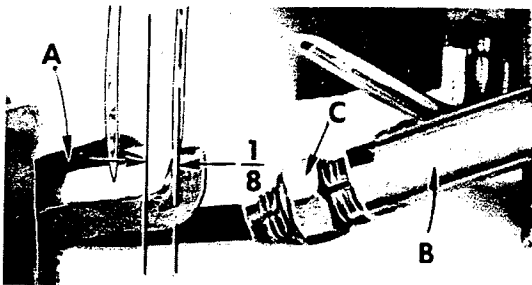

Fig. 4
Insert the lower spreader (A, Fig. 4) into bar (B). With lower spreader at left end of its stroke, set spreader point $\frac{1}{8}$ inch from center-line of right needle (Fig. 4) using gauge No. 21225- $\frac{1}{8}$. Do not have lower spreader deflecting needle. Do not lock nut (C) because the spreader point will have to be set to the needle scarf after the rear needle guard has been assembled and positioned. (See paragraph under "Final Setting of Lower Spreader").
is obtained by rocking the spreader forward or backward around its shank. Recheck the $1/8$ inch spreader gauge setting and tighten nut (C, Fig. 4).